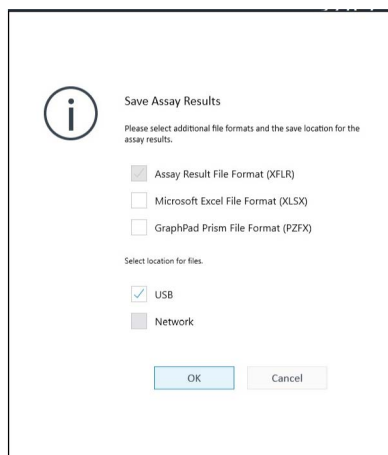

Figure 13. Save results.
- 8 After the assay is complete, the data is automatically saved to a USB flash drive (if inserted), the local drive, or the networked drive (if configured). A message appears indicating the location of the save assay result File (\*.xflr). See **Figure 13**.
- 9 After the assay is complete, data is automatically saved on the assay result file format to the location specified at the start of your assay (USB flash drive, network location, or locally). It is mandatory to save result data in the assay result file format after completing the assay and will always be checked ON. You can also save result data as an Excel file (.xlsx) and GraphPad Prism file (.pzfx) directly from the XF HS Mini Analyzer as well. Check the box next to the desired file formats and click **OK** (**Figure 13**).